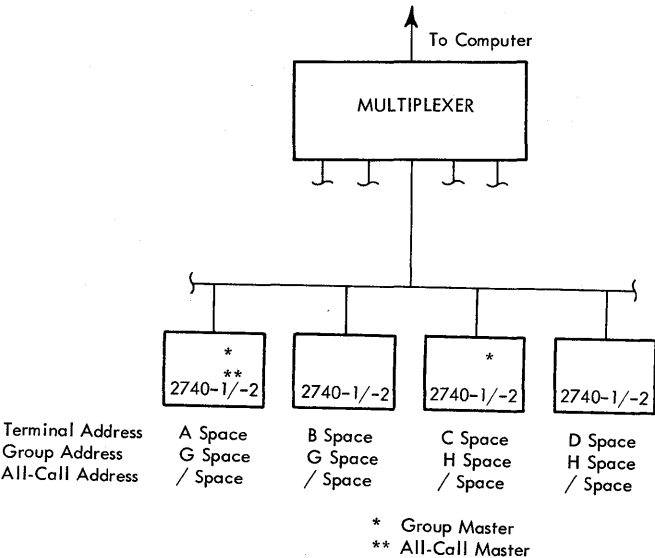

Figure 4-6. Station Control, Terminal Configuration
- Allows more than one terminal to be connected to a computer (via a multiplexer) by a single communication line (Figure 4-6).
Each terminal is assigned three addresses: an individual terminal address, a group address, and an all-call address (Figure 4-6). The terminal address consists of an alphabetic character and a space. The terminal address is used for both polling and addressing, and identifies each terminal. A group address, which also consists of an alphabetic character and a space, is assigned to two or more terminals. Both terminal and group addresses are wired into the terminal (using jumpers) by the Customer Engineer. The group address, used only for addressing, allows all terminals in the addressed group to receive the computer message. The all-call address (not wired) is a slash (/)-space, and enables all terminals on the communication line to receive the computer message.